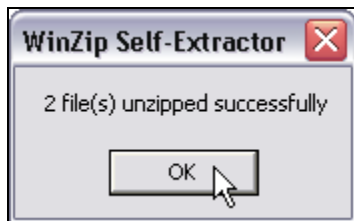

FIGURE 3: STATUS MESSAGE
4. When the unzip process is complete a status message appears. Click **OK** to proceed (Figure 3 below).